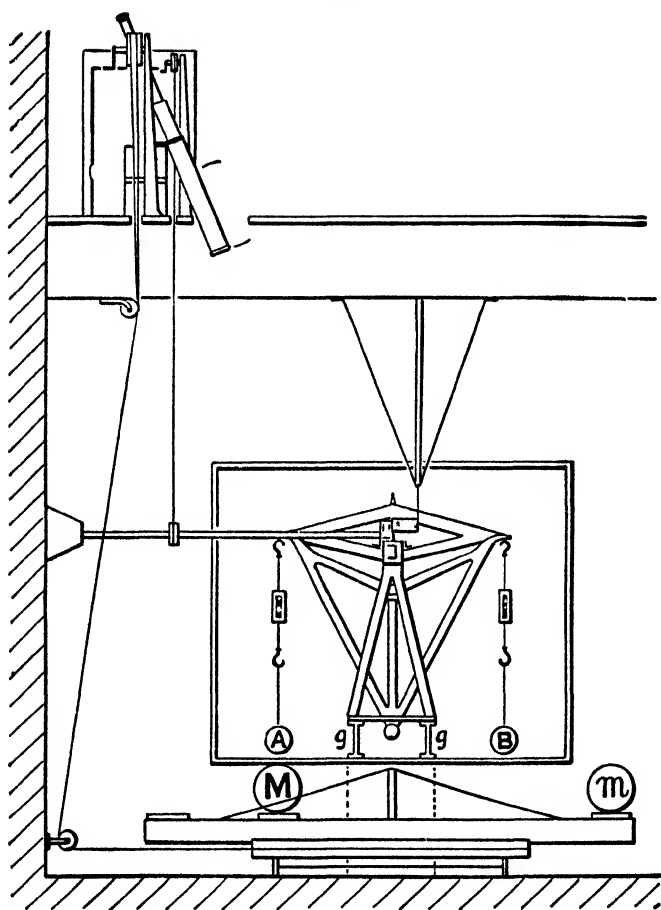

FIG. 69.—Poynting's apparatus (modified from the author's drawing.
No experiment to determine the force of gravitation can be a simple one, because the attraction of two bodies of a size that can be handled and at a reasonable distance from each other is only a thousand-millionth of their weights. Consequently, the balance which will measure this attraction must be far more accurate than even a good chemical balance. All sorts of minute errors have to be allowed for. However, we can at least see the kind of way it can be done. Professor J. H. Poynting in 1890 set up an apparatus like that in Fig. 69. He hung two 40 lb. balls (A, B) of lead from the most delicate balance which would bear such a weight. Under the balance he had a turntable which bore a mass (M) of about 300 lbs. of lead. By swinging this round, he could bring the big mass (M) under either of the smaller masses A or B. The masses attracted each other, and he found the difference between the position of the pointer when M was under A and when M was under B. The attraction of M for A was only about equal to the weight of a fifth of a milligramme (about the weight of a droplet of water, a fortieth of an inch in diameter), and the total load on the balance pans was about 80 lbs., so it is not surprising that the weighing was most laborious.